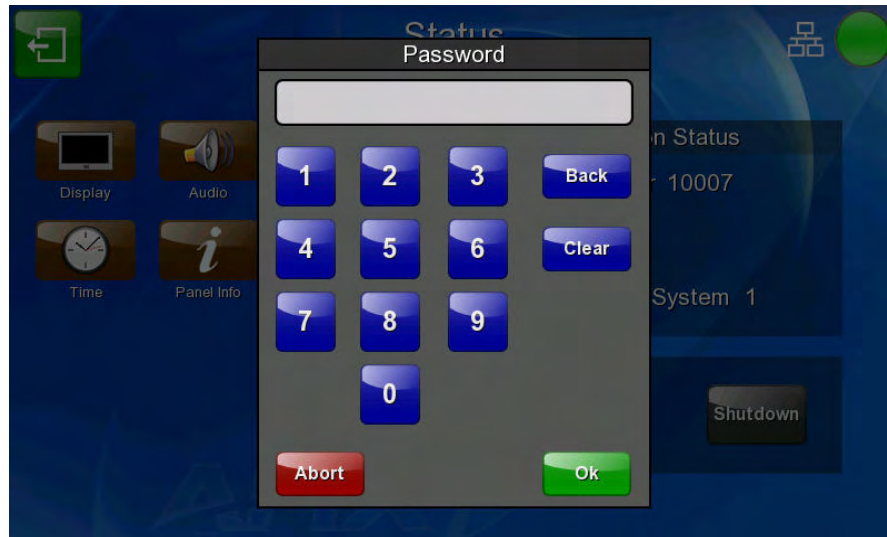

FIG. 18 Protected Setup password popup window
- Press the **Protected** button. This opens a popup keypad for password entry (FIG. 18). Enter the device's password and press **Done** to proceed to the *Protected Setup* page (FIG. 19).